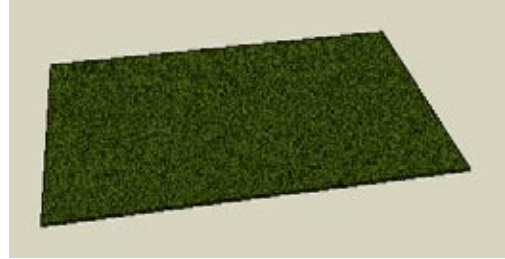

Figure 11-69
16. Close the plaza group, and all that is visible is the plot of grass upon which the castle will be built, as shown in Figure 11-69. To hide the section planes that are cluttering the view, choose View→Section Planes.